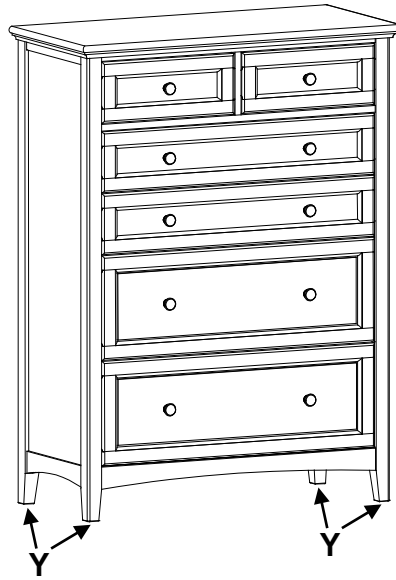

Fig. 2
2. Place the chest at its final destination. Rotate the Small Adjustable Glides (Y) on the bottoms of the legs until the unit is level. See Figure 2.